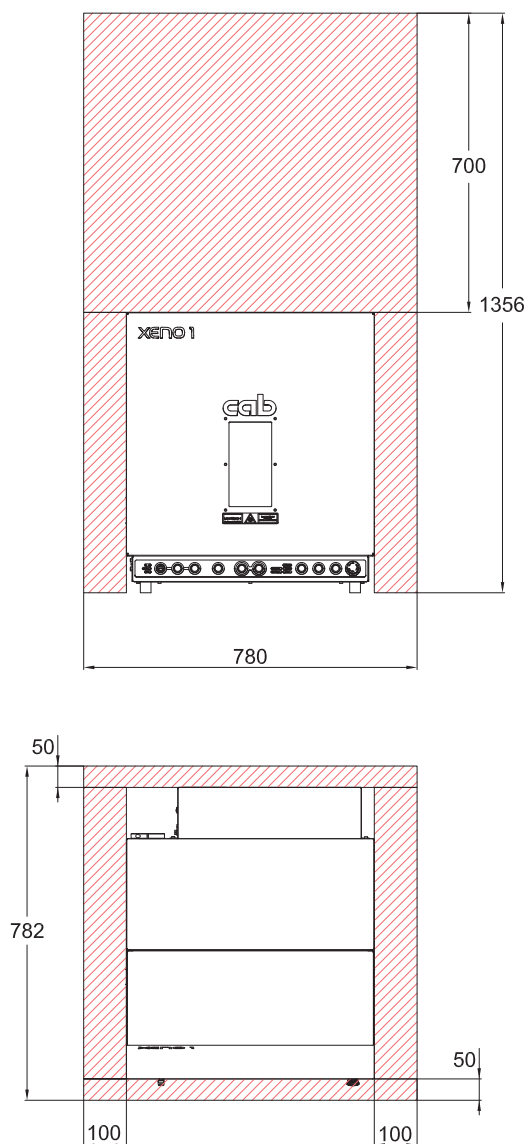

Figure 3 Clearances and laser marking system dimensions
- Install the laser marking system so that the clearances shown in figure 3 are complied with.